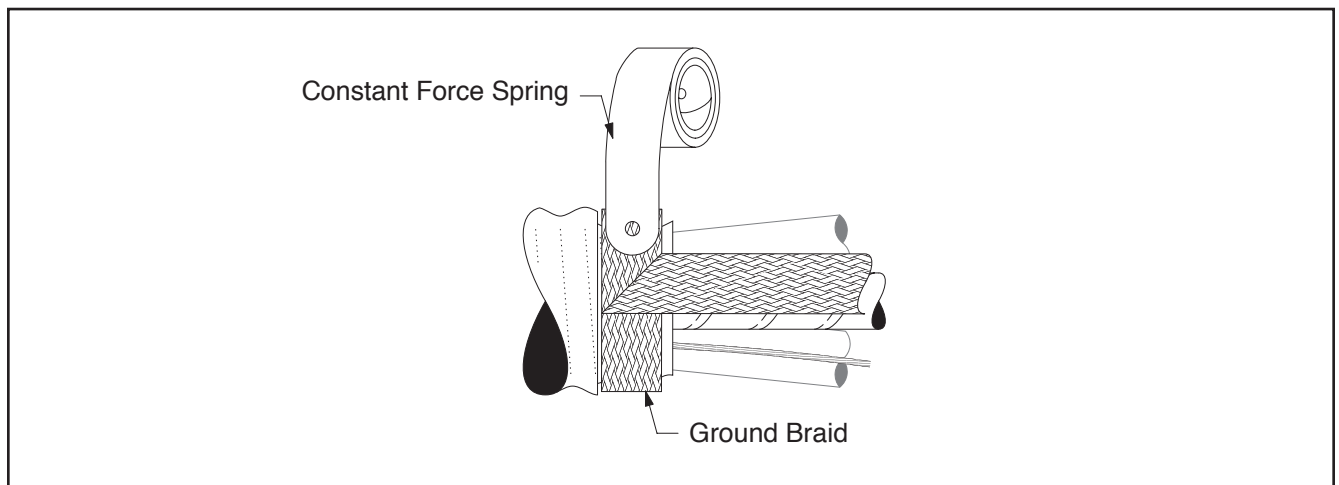

Figure 19
- a. Wrap an end of the Scotch® Electrical Grounding Braid 25 around the exposed armor on Cable X. Fold braid at a 90° angle, extending toward the splice opening. Secure end of braid with a large constant force spring (*Figure 19*).